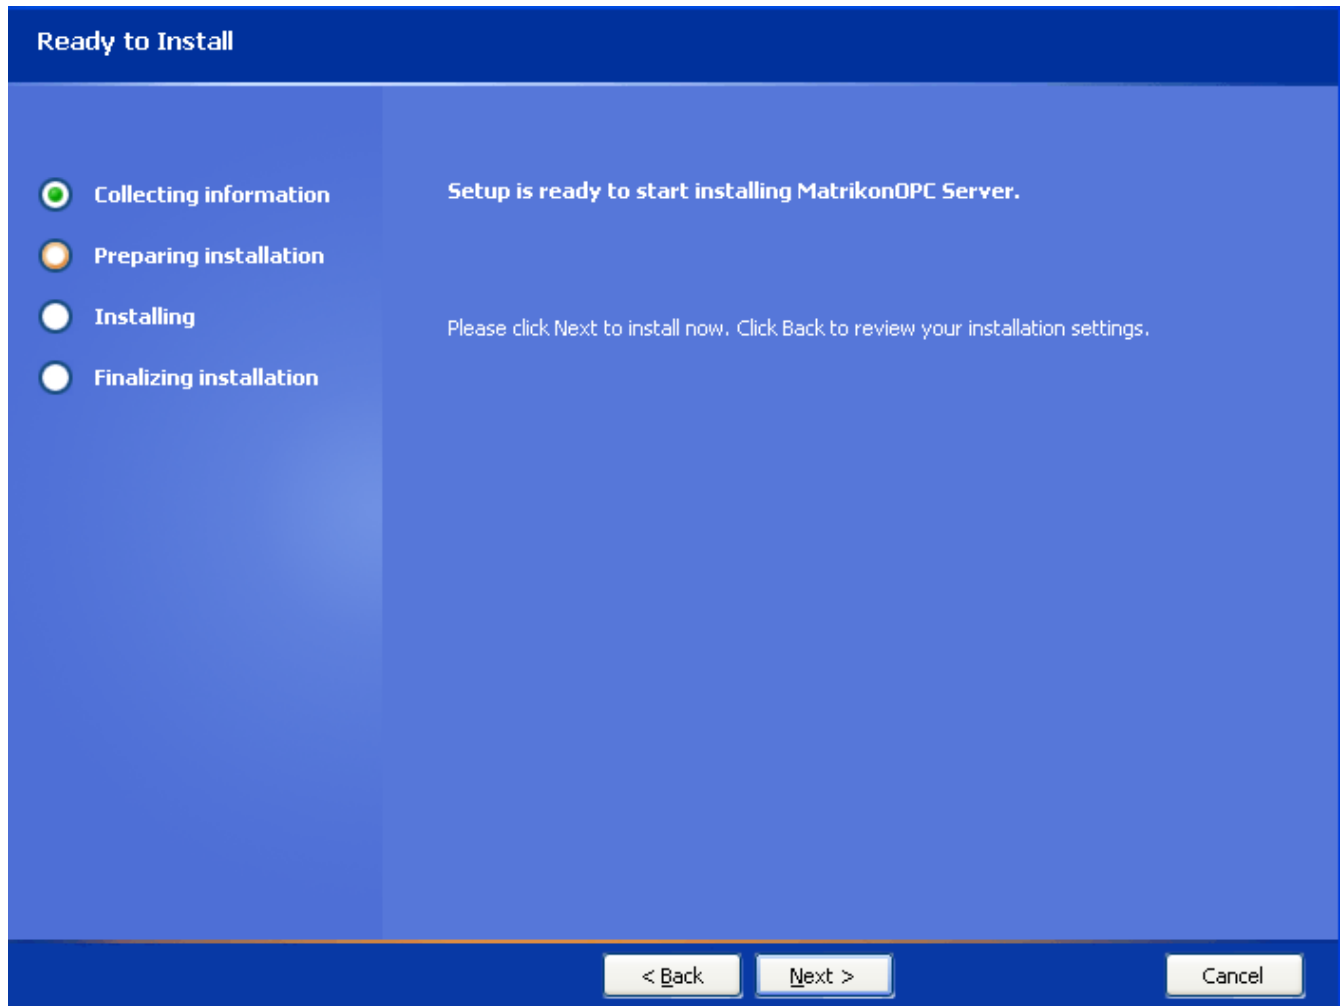

Figure 70 - Ready to Install Screen
18. Click on the **Next** button. The **Ready to Install** screen (Figure 70) appears.